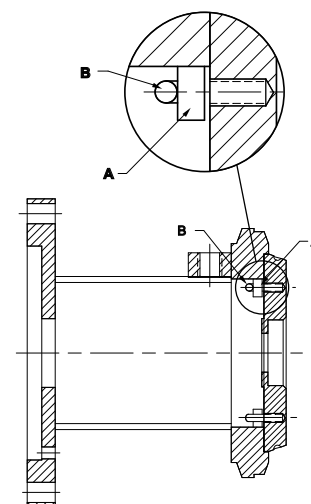

Figure No. 5
- a. Place the back plate assembly onto the adapter. Put even pressure down on the back plate until it is completely seated on the adapter. (see figure no.5)